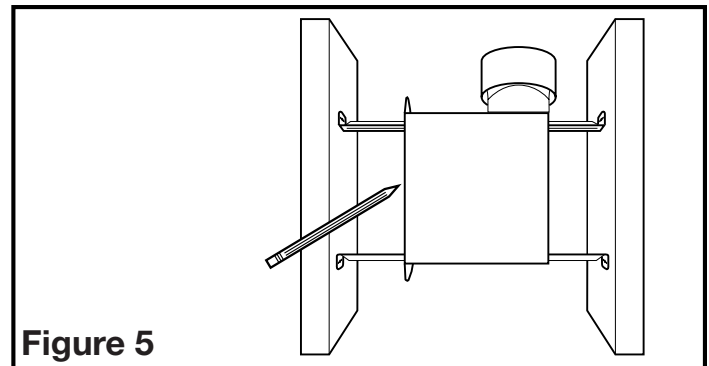

Figure 5
- 1a. **Mounting Rail Installation:** Set housing in position between the joist and trace an outline onto the ceiling material (**Figure 5**). Set housing aside and cut opening, being careful not to cut or damage any electrical or other hidden utilities. Install the rails on the housing and position the housing in the previously cut hole so that it is flush with the finished ceiling. Secure the ends of the rails to the joists (**Figure 3**).